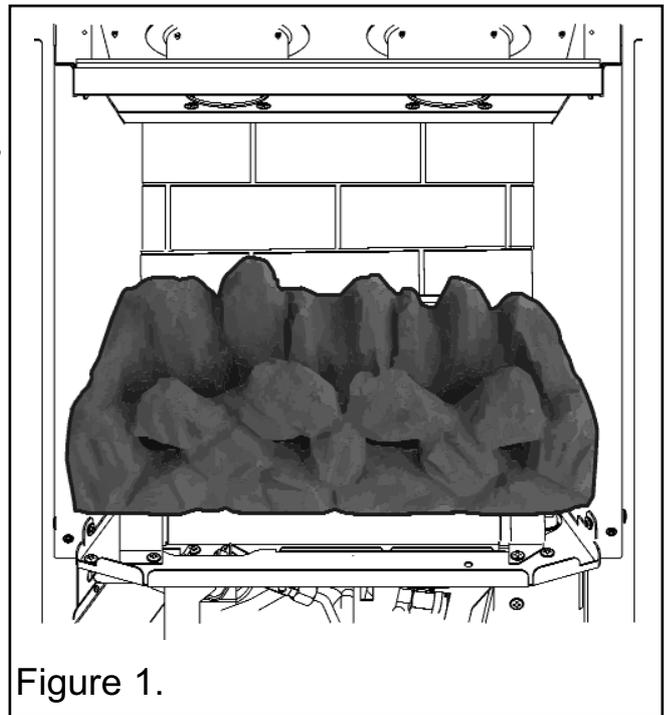

Figure 1.
1. Place the ceramic base coal in the burner compartment. The bottom of the coal should rest on the flat surfaces at each end of the burner. Gentle push the burner back so that its rear face is against the rear brick effect (See figure 1).